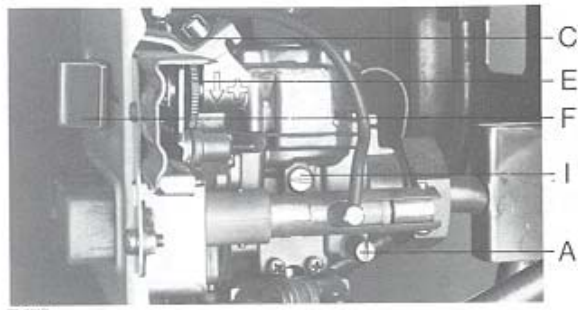

Fig. 7
1. Sealing screw "D" (Fig. 7) to be removed and U-pipe manometer to be connected to measuring point.
2. Gas shut-off cock to be turned on and appliance to be started in accordance with instructions as per Sec. 5. Gas control slide "F" (Fig. 7) and water flow selector handle 10 must be at right-hand stop.
3. Screw "C" (Fig. 7) to be undone and gas rate according to orifice pressure (mbar) as per Table, see Sec. 9.1, to be set by adjusting toothed disc "E" (Fig. 7). Direction of rotation to be noted, see Fig. 7.
5. Sealing screw "A" (Fig. 7) to be removed and U-pipe manometer to be connected to measuring point.
1. Gas shut-off cock to be turned on and appliance to be started in accordance see page 5. Gas control slide "F" (see Fig. 7) and water flow selector handle 10 must be at right-hand stop.
2. Screw "C" (Fig. 7) to be undone; gas rate in litres (cu.ft) per min. to be taken from Table on page 11 and to be set by adjusting toothed disc "E" via gas meter. Direction of rotation to be noted, see Fig. 7.
3. Gas shut-off cock to be turned off, sealing screw "A" (Fig. 7) to be removed, and U-pipe manometer to be connected to measuring point.
These are set at the Works to rated input and lead-sealed. The pressure stated on the performance badge may be checked at measuring point "A" (Fig. 7).
4. Cross-ignition bolt "I" (Fig. 7), to be exchanged.